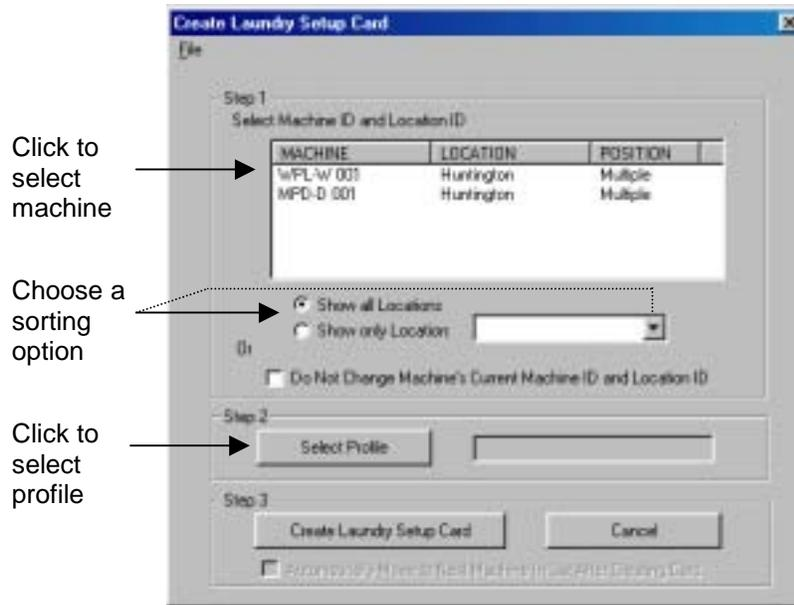

Figure 8.30 Laundry Setup Card Creation Steps
2. Select a Machine ID with a corresponding Location ID by clicking on it. There are two ways to view the machines in the database (Figure 8.30):
3. Click the Select Profile button (Figure 8.30).